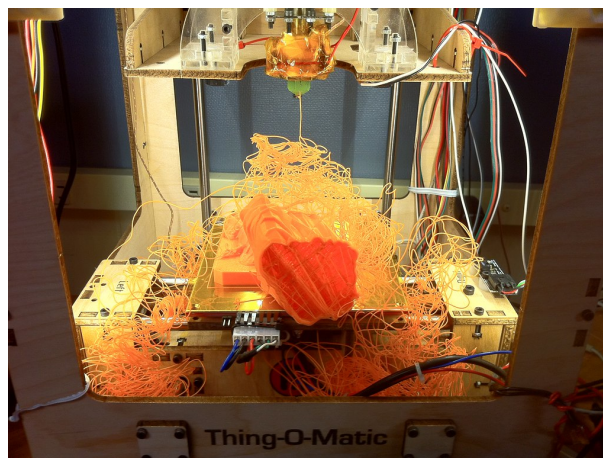

Figure 1: Extruded filament that resembles spaghetti
- **Problem:** 'Spaghetti' - Figure 1 defects due to print malfunctions or improper adjustments. The 'Spaghetti' error in 3D printing happens when the filament is extruded in a disorganized manner, resembling a pile of spaghetti, usually due to the print not adhering to the build plate or the printer losing its coordinates.